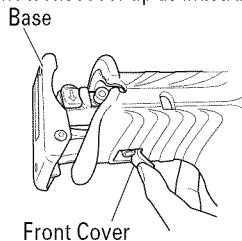

Fig. 12
(1) Lift the front cover up as illustrated in Fig. 12.